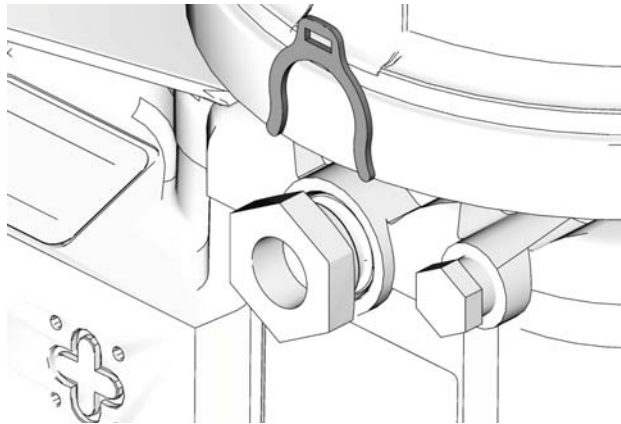

FIG. 15
Pump volume control is set using either no (0) spacers, 1 or 2 spacers (FIG. 15).